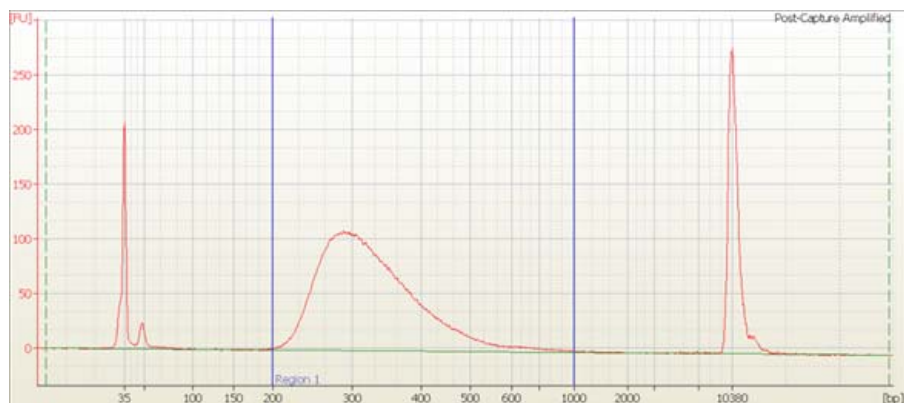

Figure 14 Analysis of amplified captured DNA using the 2100 Bioanalyzer and the High Sensitivity DNA Assay.
- 6 Verify that the electropherogram shows an average DNA amplicon size of approximately 250 to 300 bp. A sample electropherogram is shown in Figure 14.